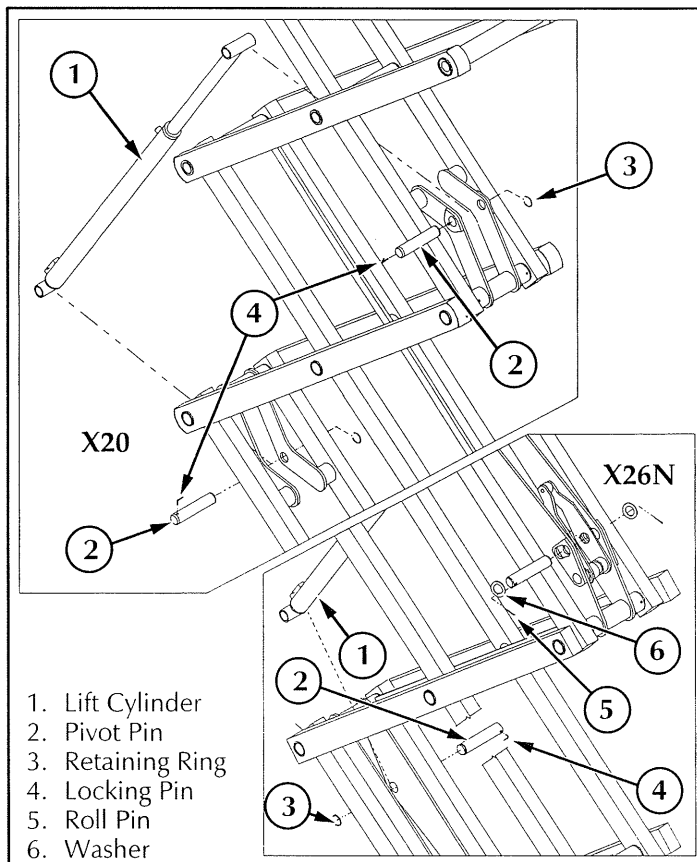

Figure 4-15: Lift Cylinder Installation
4.12 Lift Cylinder (Figure 4-15)